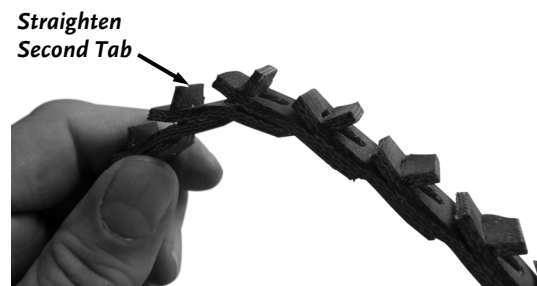

Figure 26
5. Twist the Tab back to the locking position (**Figure 26**).